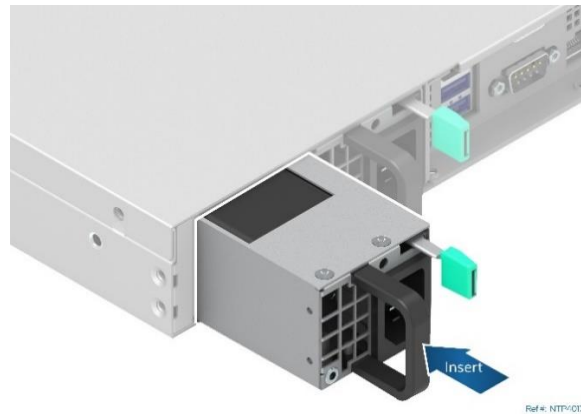

Figure 65. Power Supply Installation
4. Install power supply into the system (see Figure 65)